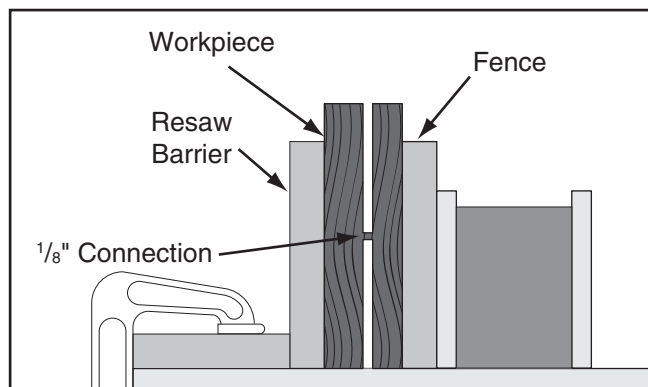

Figure 79. Ideal completed resaw cut.
3. Place the workpiece against the rip fence and slide the resaw barrier against the workpiece. Now clamp the resaw barrier to the top of the table saw (see **Figure 79**).
8. Repeat **Steps 4–6** until the blade is close to half of the height of the board to be resawn. The ideal completed resaw cut will leave a $\frac{1}{8}$ " connection when the resawing is complete as shown in **Figure 79**. Leaving a $\frac{1}{8}$ " connection will reduce the risk of kickback.